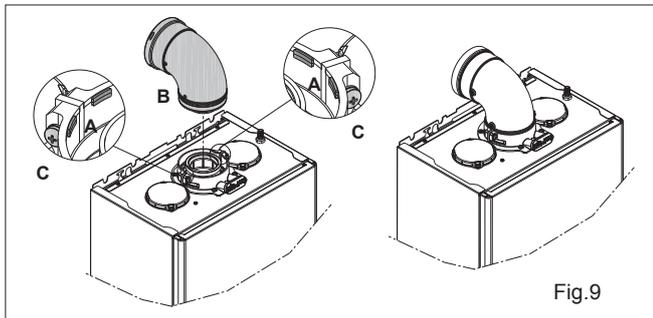
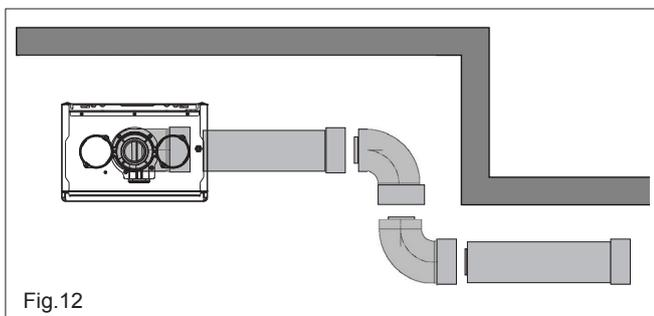

Fig.9
Fig.12
**NOTE (Fig.9):** The appliance incorporates a 'click-fit' flue connection. Ensure that both screws 'C' on the 'click-fit' have been slacked off. Ensure that the connector is correctly aligned with the 'click-fit' and insert it into the 'click-fit' until it clicks into position (this is when the tabs at points 'A' are located in the groove of the flue bend connector). Both screws (C) should now be tightened.
Connect the bend – supplied with the terminal kit – to the top of the boiler (see Fig.9). The additional bends & extensions have push-fit connections, care should be taken to ensure that the correct seal is made when assembling the flue system. Connect the required number of flue extensions or bends (up to the maximum equivalent flue length) to the flue terminal (Fig.12). The flue system should have a 3° rise from the boiler to outside, to ensure any condense fluid that forms, is allowed to drain back to the appliance.
When cutting an extension to the required length, you must ensure that the excess is cut from the plain end of the extension (Fig.12). Remove any burrs, and check that all seals are located properly. You must ensure that the entire flue system is properly supported and connected. Seal the flue assembly to the wall using cement or a suitable alternative that will provide satisfactory weatherproofing. The interior and exterior trim can now be fitted.